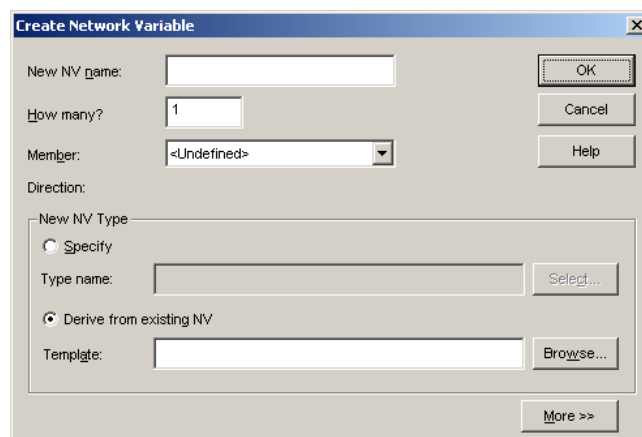

Figure 86: Create Network Variable dialog.
2. Click on **Create NV**. The dialog shown in Figure 86 appears.